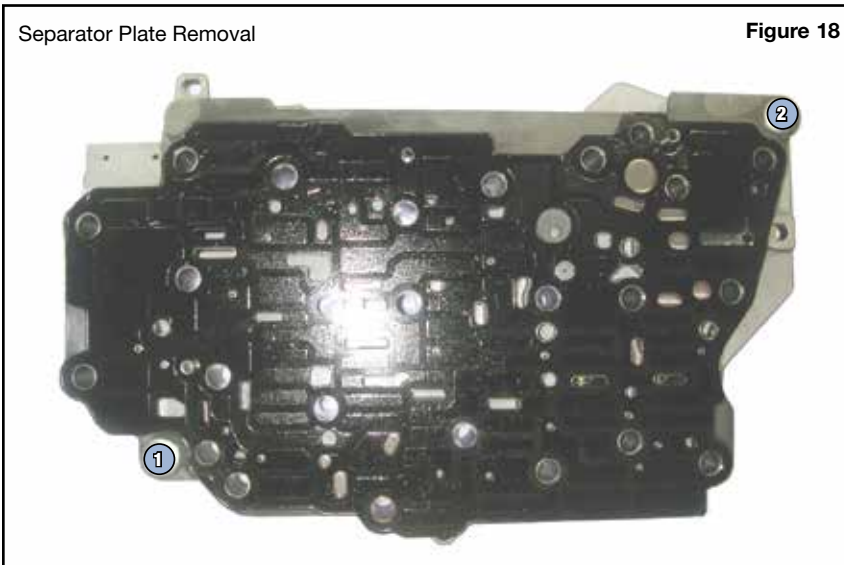

Figure 18
- To remove separator plate from solenoid body, remove two bolts (blue), (Figure 18).
- a. Bolt separator plate to solenoid body using two bolts. Torque to 89 in-lb (**Figure 18**).